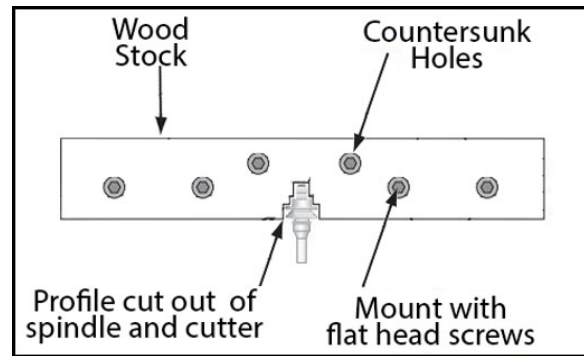

Figure 54
4. Cut the outline of the spindle and router bit from the center of the stock in Step 3, as shown in (FIG.54)
5. Create countersunk mounting holes in the zero clearance fence board (Fig.54) to secure the new fence and router bit guard to the base.